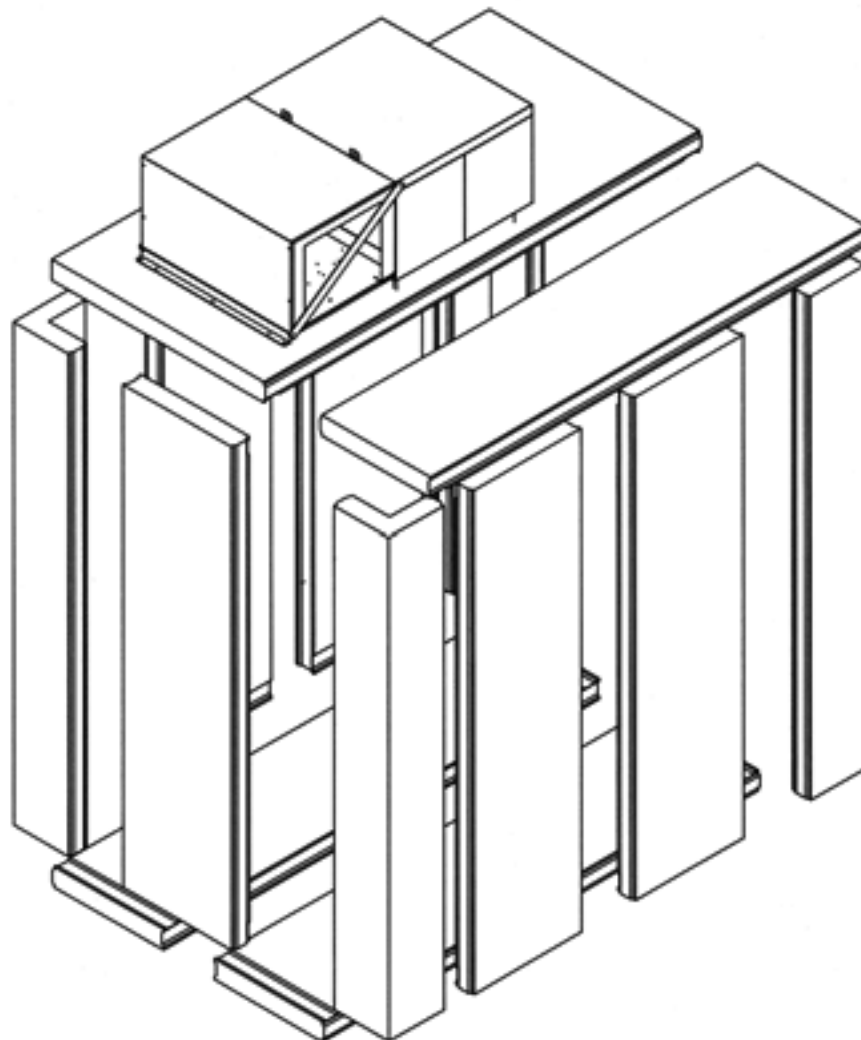

Figure 3: Break-Away of Walk-in and Polar Pak Top-Mount Refrigeration System
A separate installation instruction manual for the walk-in is included with the shipping crate. Please read it prior to installation. Figure 3 shows the spatial relationship of the parts:
- Remove the top/side panel to expose the condensing unit. This is a one piece cover that fits over the condensing unit and ties to the base frame with screws at the top and on the bottom as shown in Figure 3.